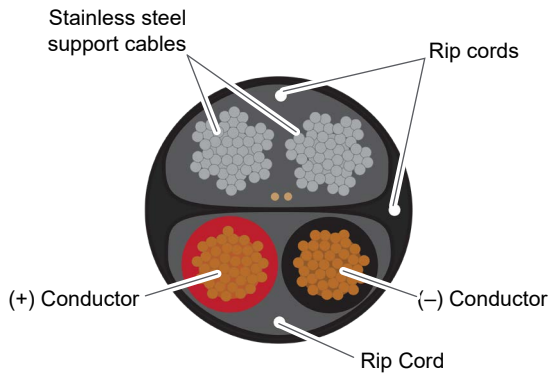

Figure 2a. Magic Cable cross-section
2. Pull the rip cords down as far as needed and cut off any extra cable insulation (Figures 2a , 2b).